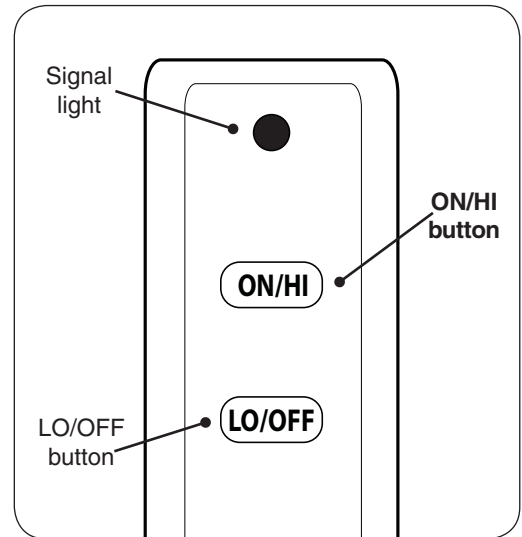

Fig. 37-1 Remote transmitter detail
2. Locate the remote transmitter and press and hold the **ON/HI** button (see Fig. 37-1). The ignition sequence will begin.